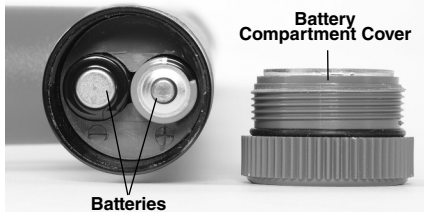

Figure 7 – Changing the Batteries (Receiver)
1. With device OFF, unscrew the battery compartment cover on the top tube (Figure 7). If needed, remove batteries.